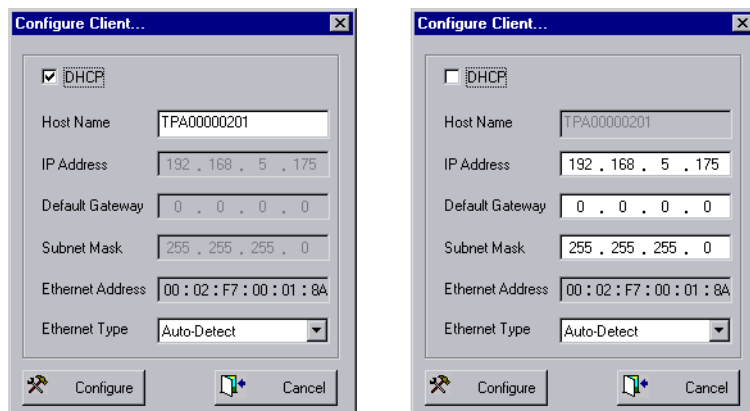

Figure 2-7 Configuration
5. A dialog box is displayed allowing you to change the MultiTrace unit configuration. The fields you can change depend on whether the **DHCP** check box is checked (see Figure 2-7 on page 2-11).